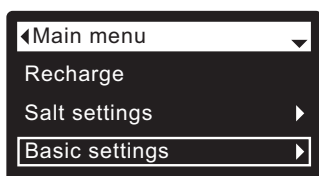

FIG. 49
1. From any of the rolling status screens, press the SELECT (O) button to display the **Main menu**.
2. Press the DOWN (▼) button to scroll through the menu options until **Basic settings** is highlighted (See Figure 49).